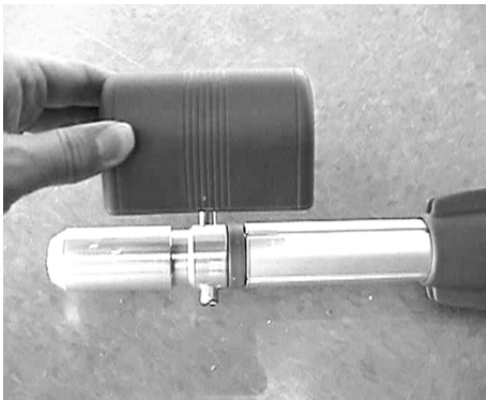

Figure 10
1. Remove the round blue cap (see Figure 9 – item #9) from the top of each post by pulling them away from the post (see Figure 10).